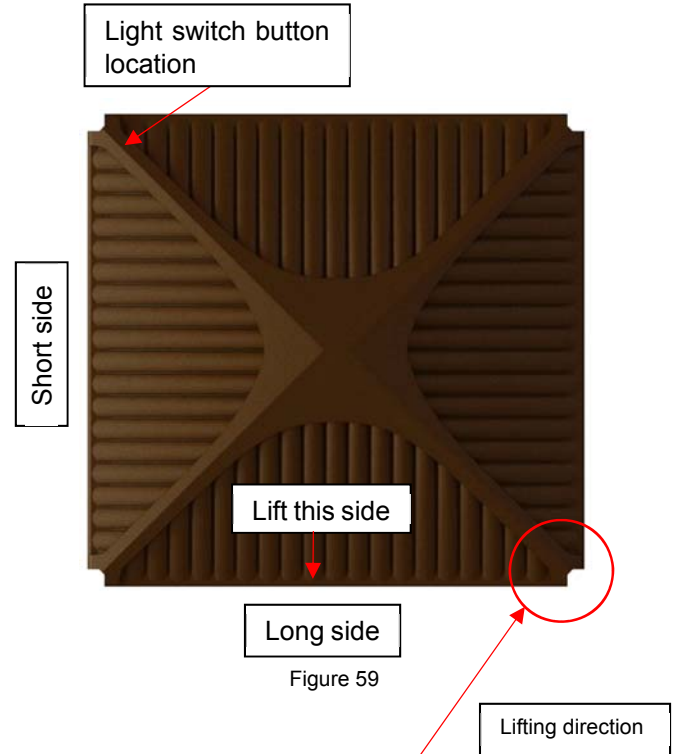
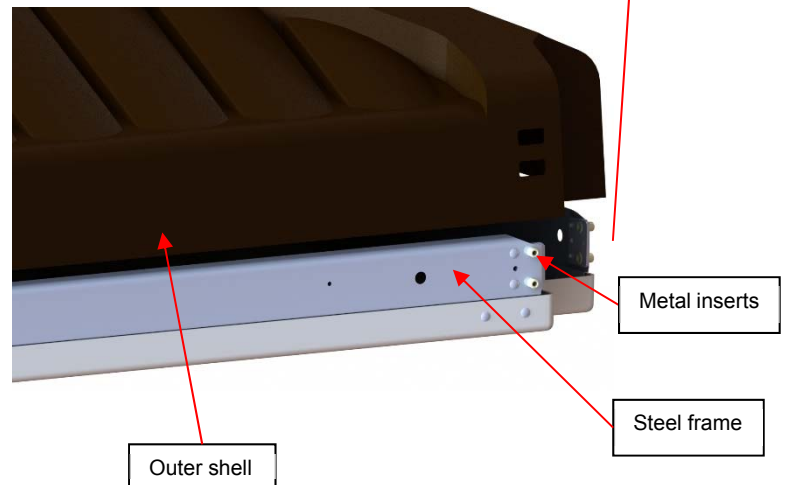

Figure 59
Figure 60
- 2) Locate the light switch button. (Figure 59)
- 3) Lift and split the long side of the outer shell opposite the light switch button for the next steps. To split the cover into two parts, you must remove the outer shell by pushing inwards on the steel frame of the inner shell. (Figure 59 and Figure 60) This will clear the metal inserts from the outer shell for better leverage. **Do not lift more than 16 in (40 cm).**